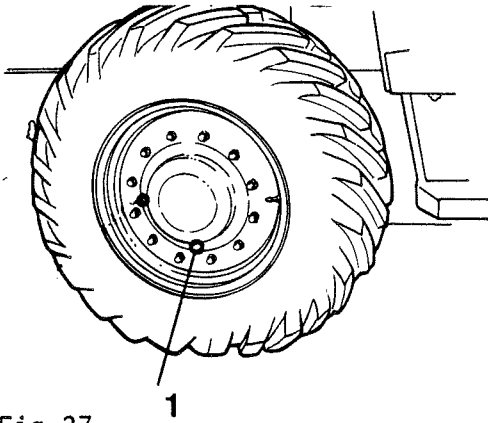

Fig 37
- 4 Drive the roller so that the level plug is positioned according to the figure 37.